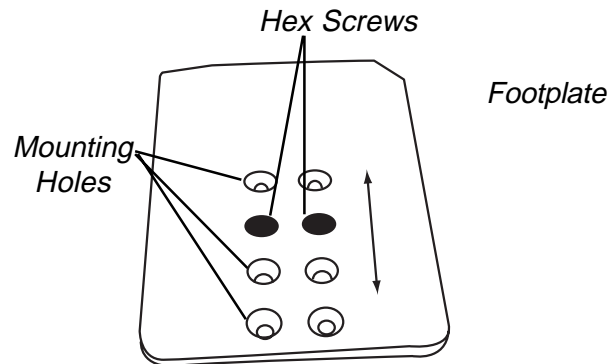

FIGURE 5 - INSTALLING/USING/ADJUSTING THE FIXED FOOTREST
**INSTALLING/USING/ADJUSTING THE FIXED FOOTREST (FIGURE 5)**